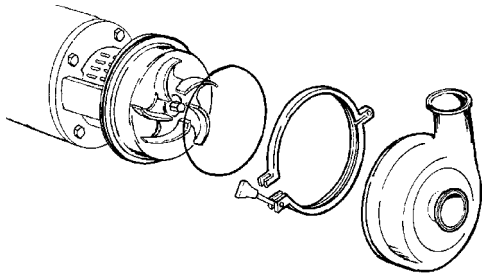

Figure 46 - Install Casing
28. Install casing O-ring on backplate and clamp casing in place. (Figure 46).